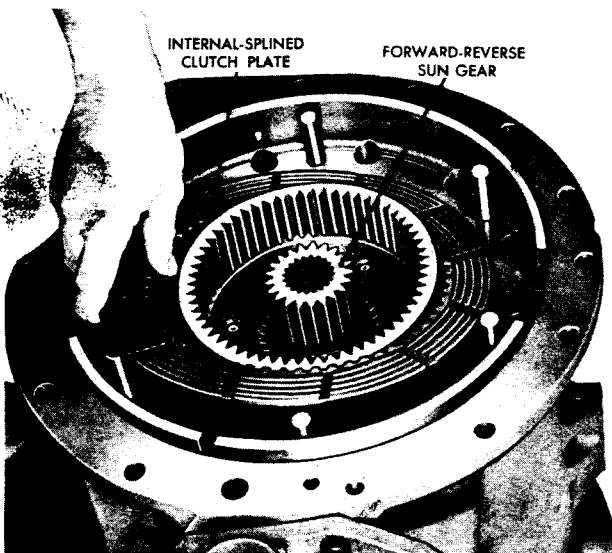

Fig. VII-26. Installing reverse clutch plate
(6) Install the forward and reverse sun gear (fig. VII-26).
(7) Install one internal-splined reverse clutch plate (fig. VII-26).